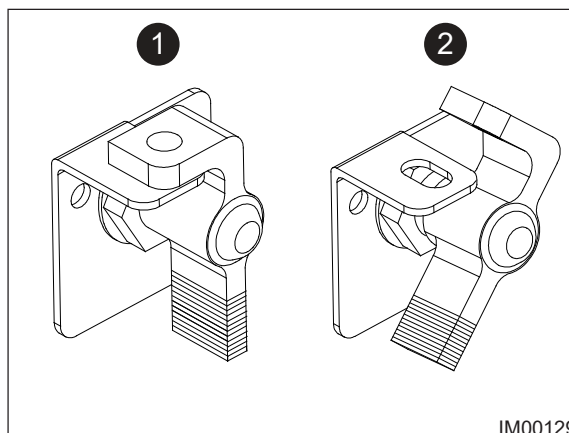

Fig: 5.2 - Isolator Switch
4. Proceed to the Isolator Switch (Fig: 5.2) and rotate the switch Clockwise from the OFF position (Item 1) to the ON position (Item 2).